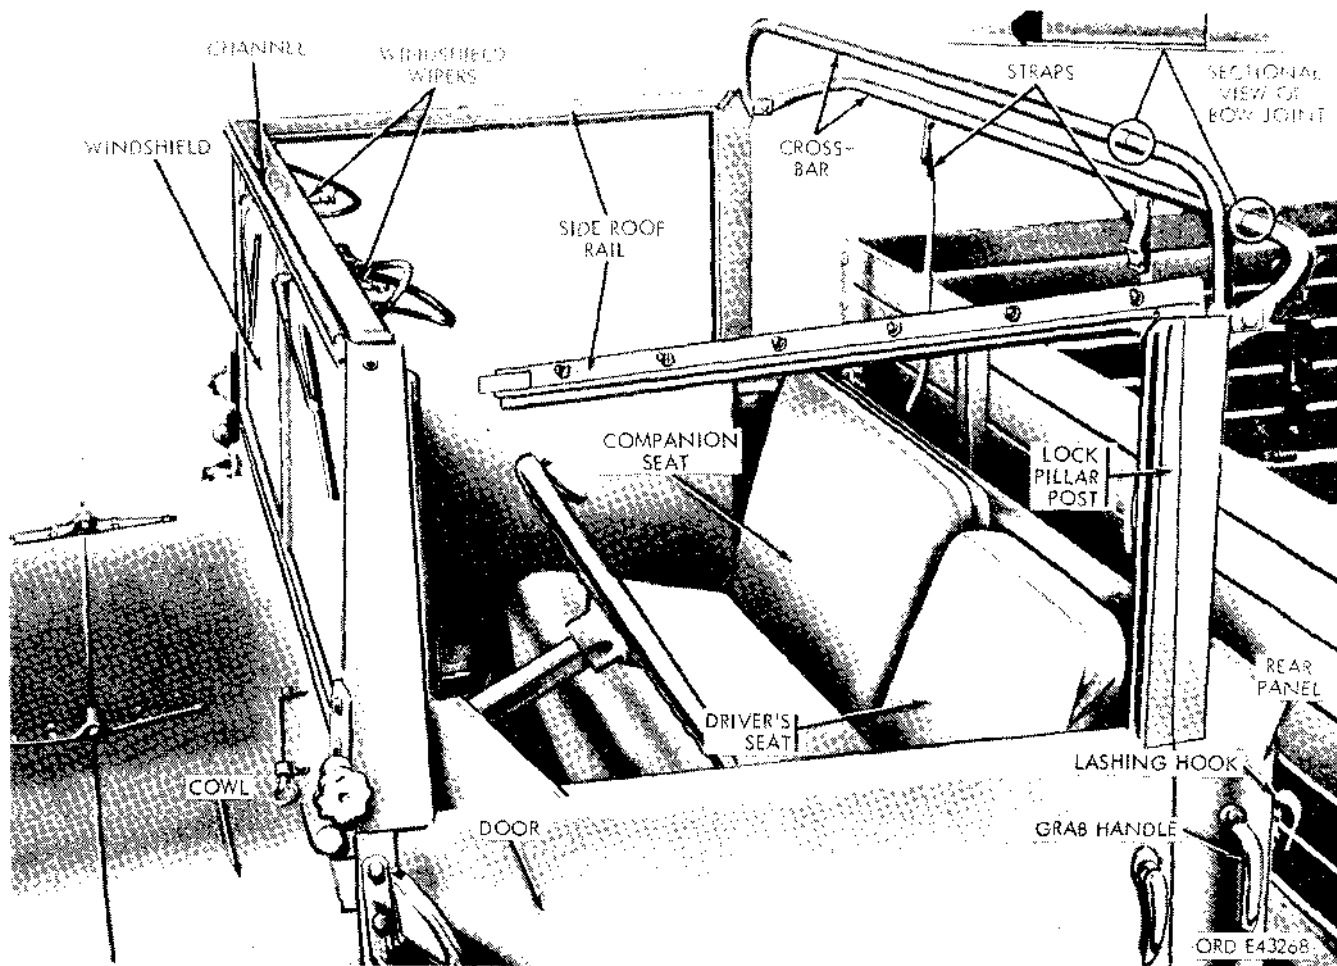

Figure 2-219. Cab with tarpaulin removed.
#### *a. Removal (fig. 2-219).*
- (1) Strap the crossbars and pillar posts together with straps on the rear crossbar.
- (2) Stow the assembly in (1) above behind the cab seats.
*c. Installation (fig. 2-219).*
- (1) Insert the crossbars in bows so that the crossbar with straps is to the rear bow.
- (2) Position the pillar post assembly into sockets. Tighten the thumb screws on both sides.
- (3) Raise the cab roof rails and swing them around into position.
- (4) Engage the rail front ends into the upper corner slots of the windshield frame.
*a. Removal (fig. 2-219).*
- (1) Disconnect the windshield wiper hose at the lower end of the wiper motor tubing.
- (2) Remove the eight nuts and bolts securing the windshield hinges to the cab.
- (3) Remove the windshield assembly from the vehicle.
*b. Installation (fig. 2-219).*
- (1) Position the windshield assembly to the vehicle, and secure the windshield hinge to the cab with eight bolts and nuts.
- (2) Connect the wiper hose to the wiper motor tubing.